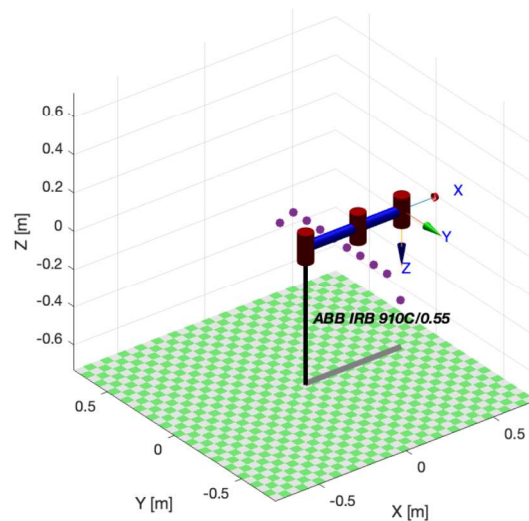

Figure 2: Kinematic chain of the robot, and path that we wish to trace (purple dots).
Open the starting code that was provided to you. Find the script called `ik.m`, and run it. A new window will appear (see Fig. 2), showing (1) the robot in its home configuration, and (2) a path that we want the robot to follow to pick an object located at its right and move it to a location at its left. Your goal is to